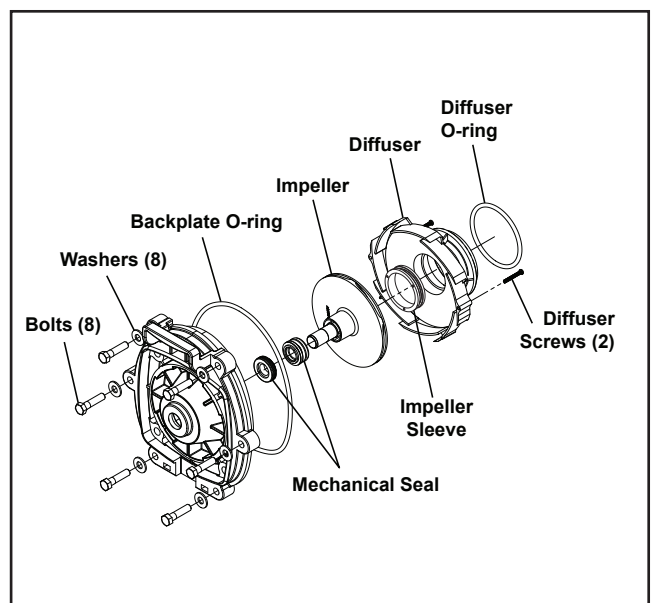

Figure 16. Diffuser and Impeller Exploded View
1. Press the new carbon face seal half (see Figures 16 and 17) on the impeller shaft using a twisting motion. Make sure the carbon surface is facing toward the ceramic ring in the backplate.